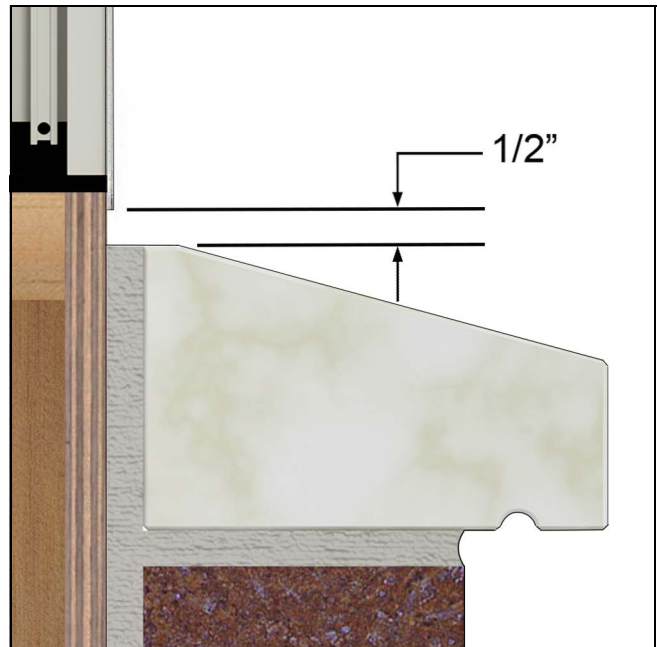

Figure 4
4. On installations with brick veneer (Masonry), verify there is at least 1/2" between bottom of window sill (or eventual placement of the window) and the top row of brick to avoid "brick bind". See Figure 4.